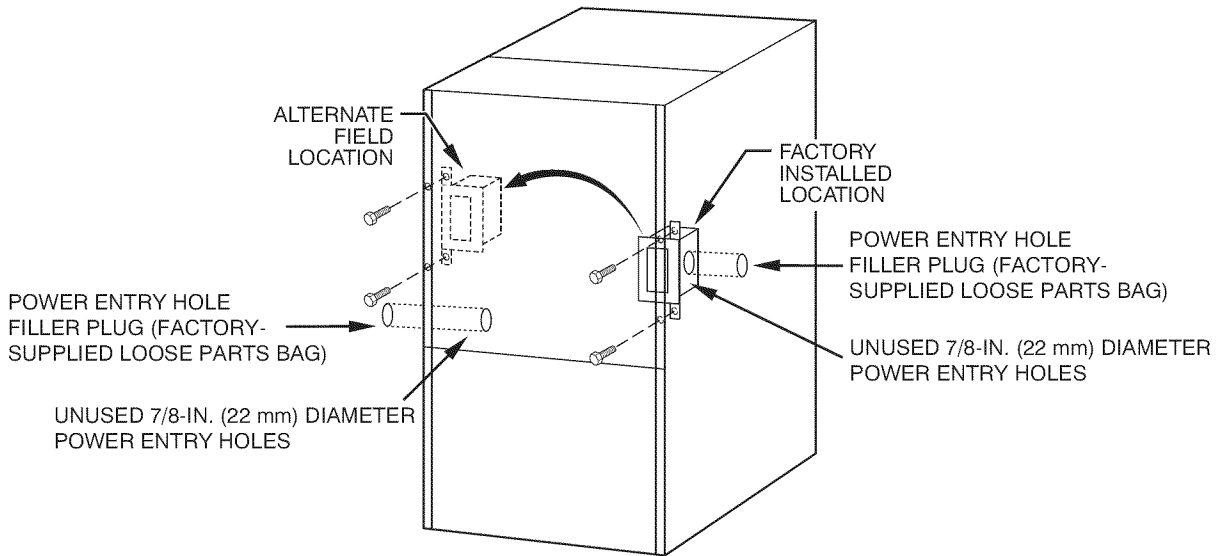

Fig. 35 - Relocating J-Box
1. Remove 2 screws holding auxiliary J-box. (See Fig. 35.)
3. Install power entry hole filler plugs (factory-supplied loose parts bag) in unused power entry holes. (See Fig. 35.)